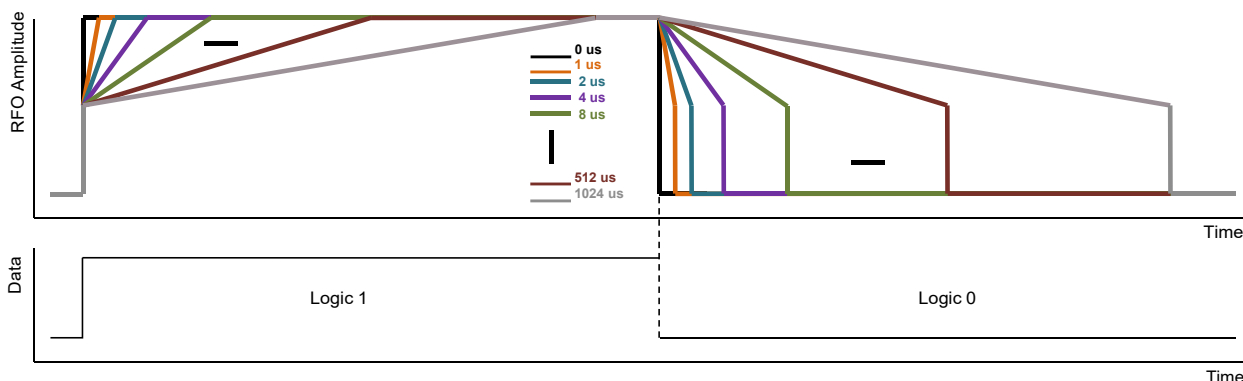

Figure 10. PA Ramping Time
- [3]. The harmonics output is measured with the application shown as Figure 10.